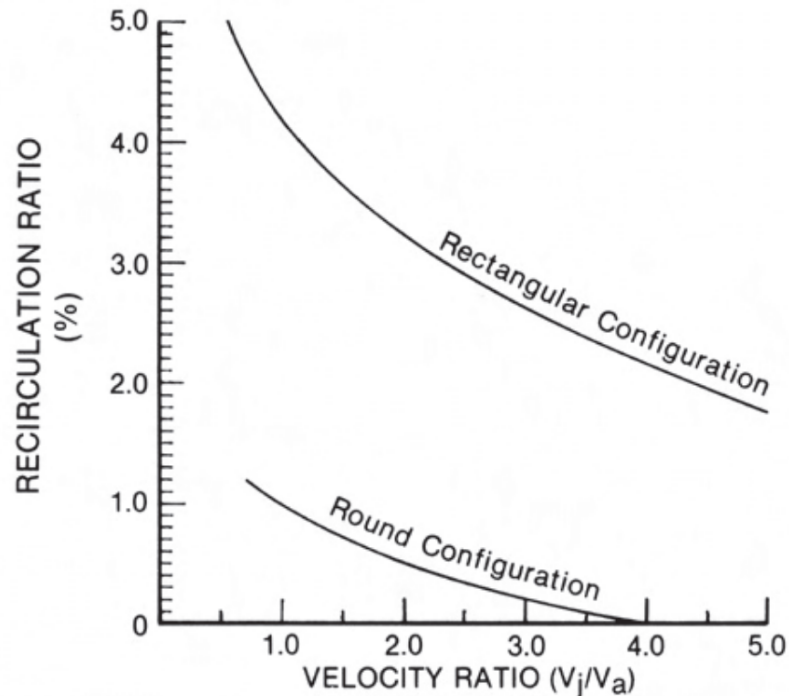

Figure 35 — Comparative recirculation potential of round and rectangular towers.
- Values in Figure 35 for the Rectangular Configuration represent a moderately sized industrial tower broadside to the prevailing wind. Recirculation ratios for that tower could be minimized if the tower were oriented 90 degrees from it's shown configuration (parallel to prevailing wind).